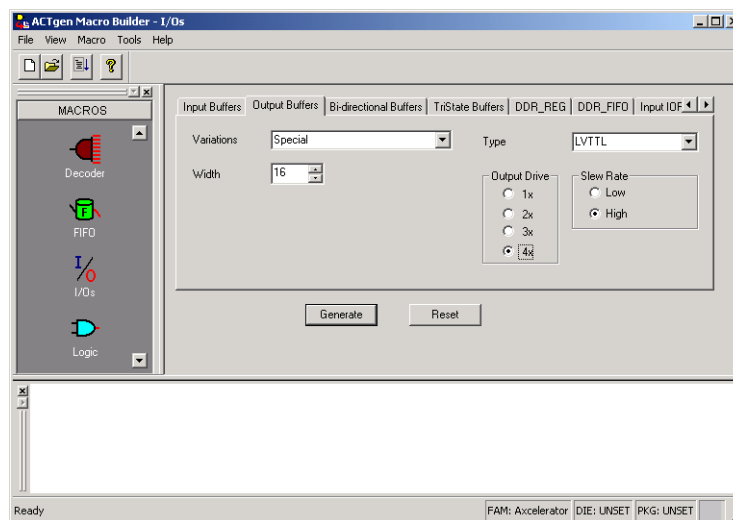

Figure 5 • Output Buffer Selection
- Select the Output Buffers tab (Figure 5)